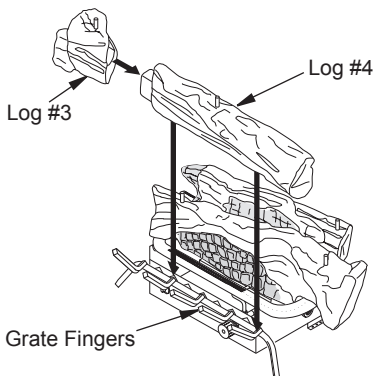

Figure 23 - Installing Front Logs (#3 and #4)
3. Slide log (#3) over left end of log (#4). Place these logs on the grate fingers. Make sure the notches of the front log line up with the grate fingers (see Figure 23, page 18).